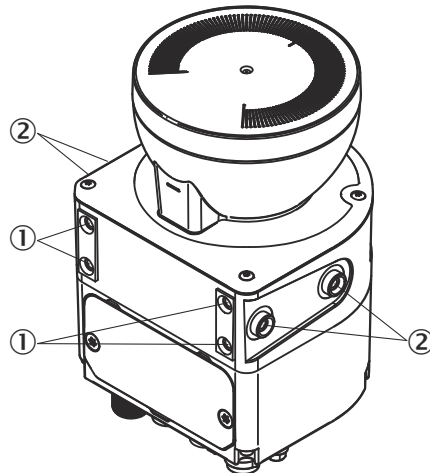

Figure 51: Mounting the safety laser scanner directly
- ① Rear M5 threaded hole
- ② Side M5 threaded hole
- ▶ Use either the rear or the side M5 threaded holes for direct mounting, see figure 51, page 84.